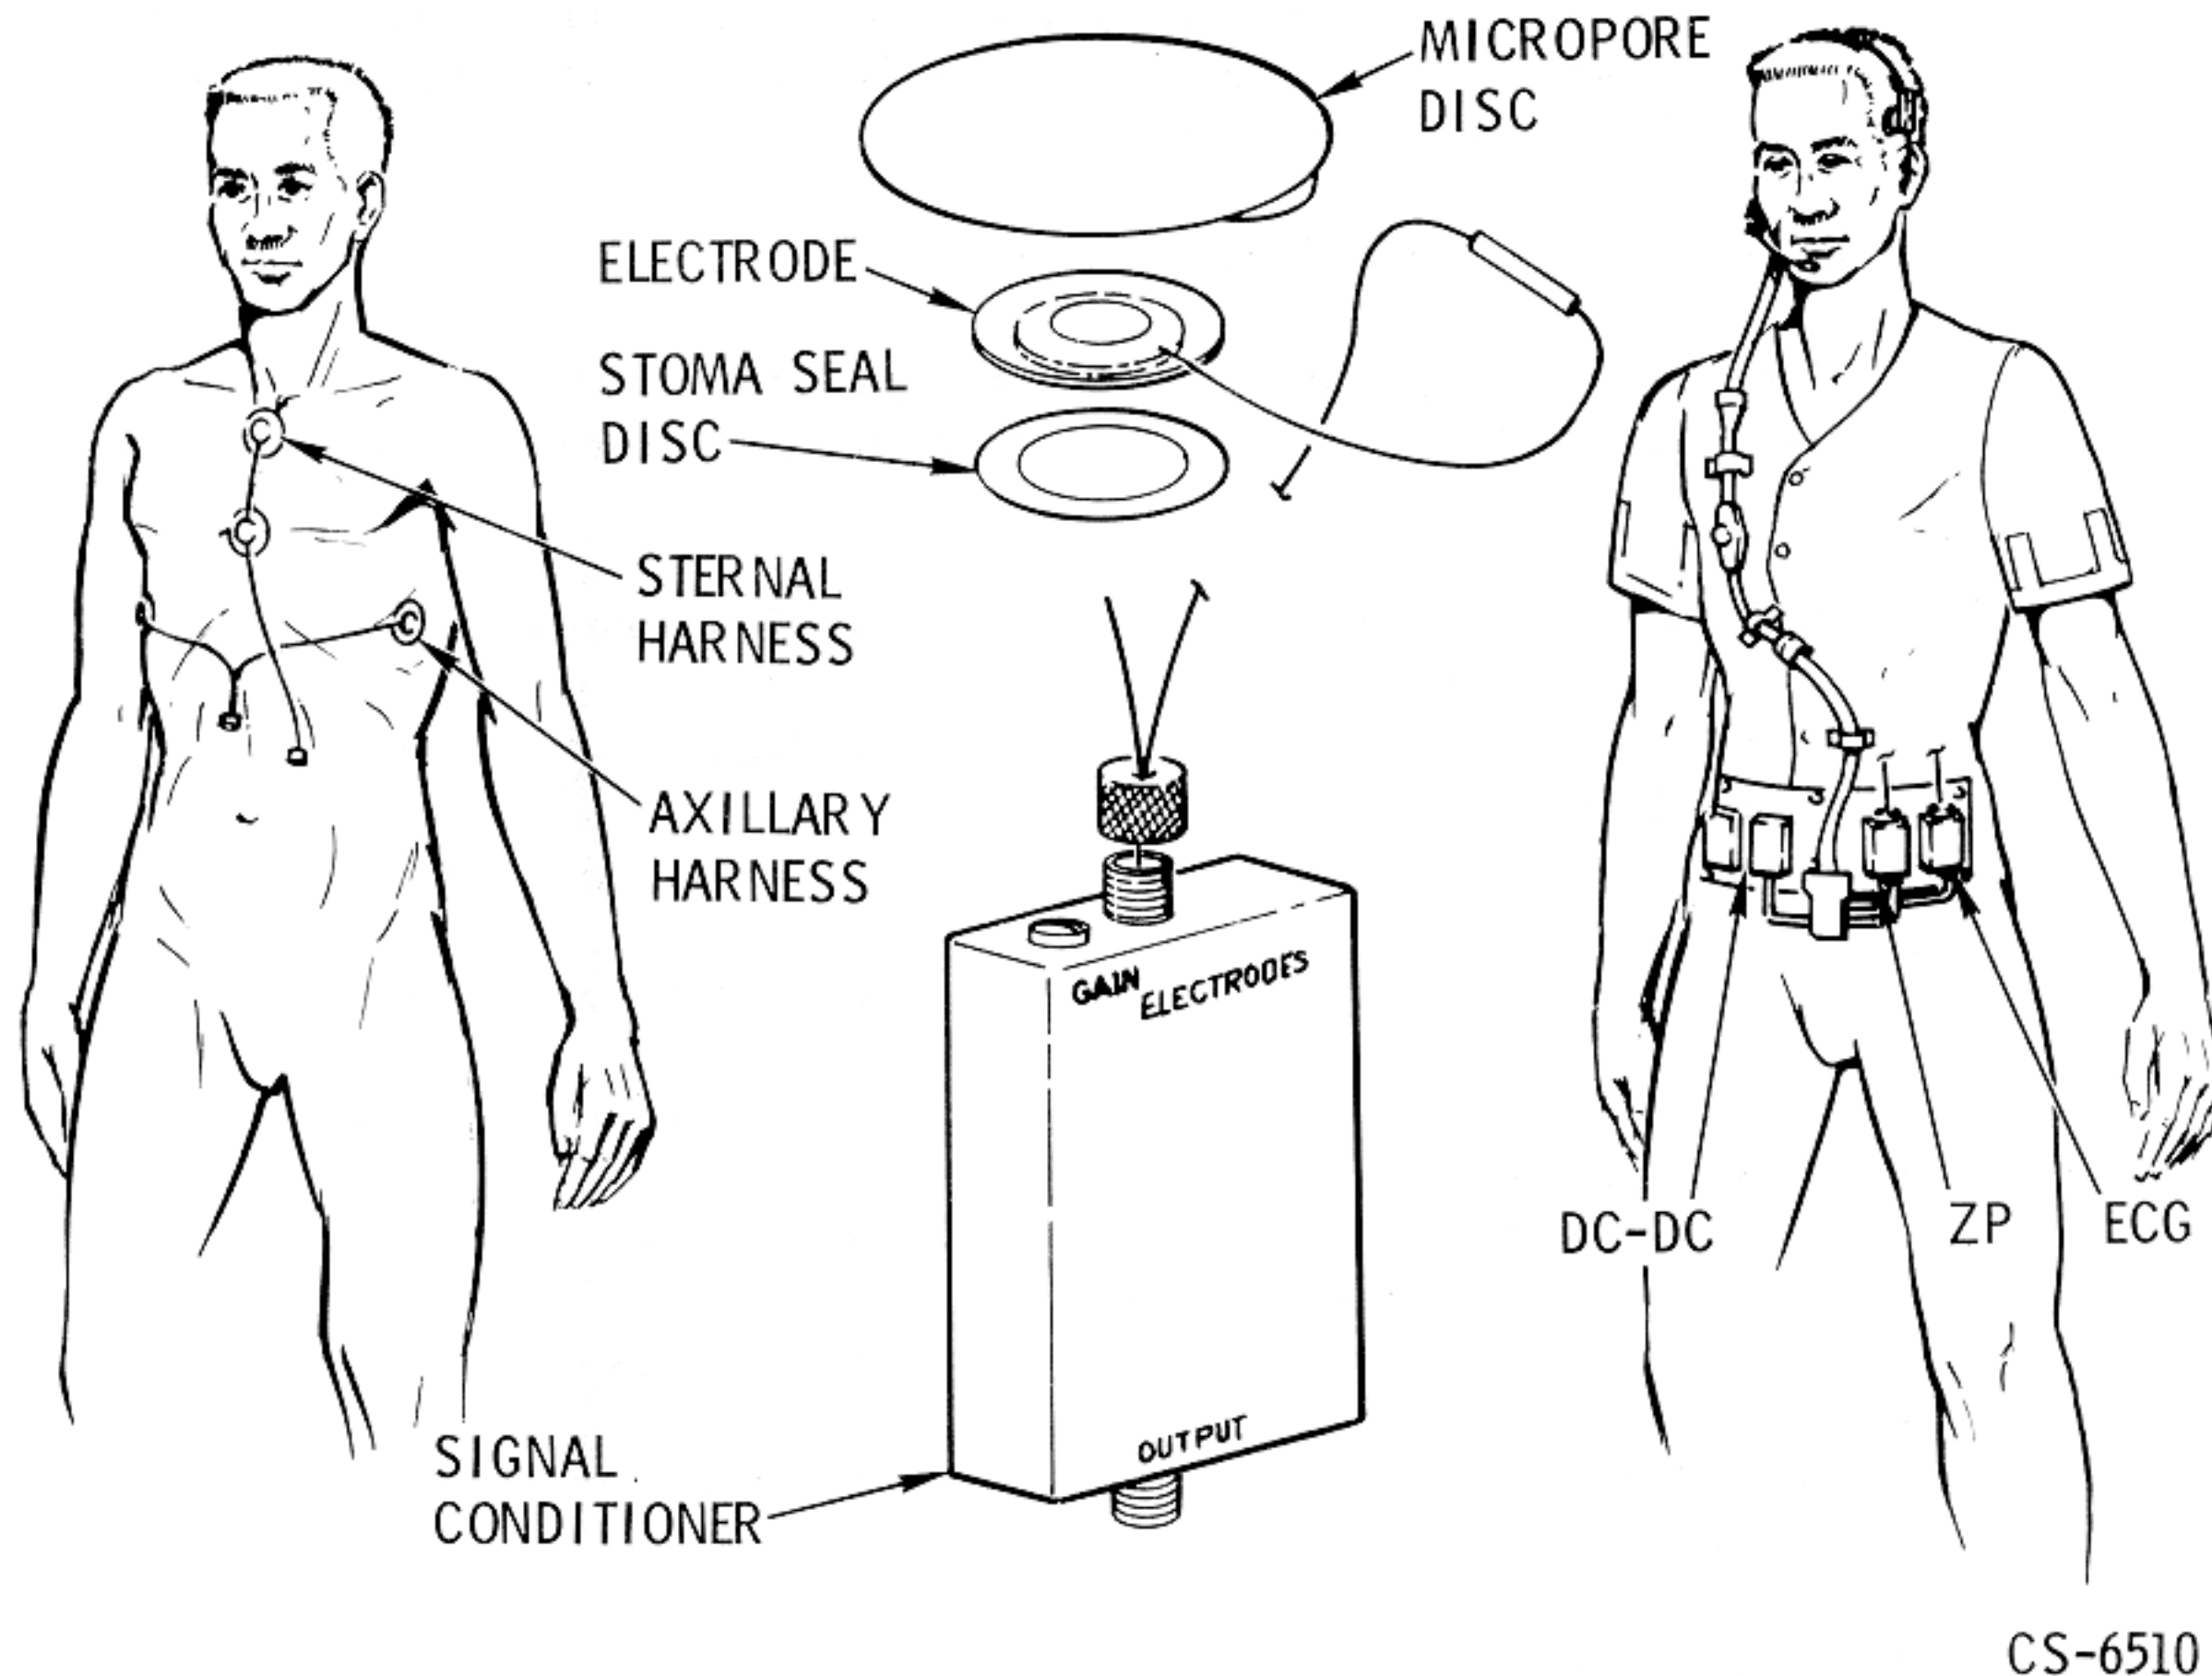

Figure 2.12-46. Bioinstrumentation Harness
2.12.7.1 Bioinstrumentation Harness Assembly (Figure 2.12-46).